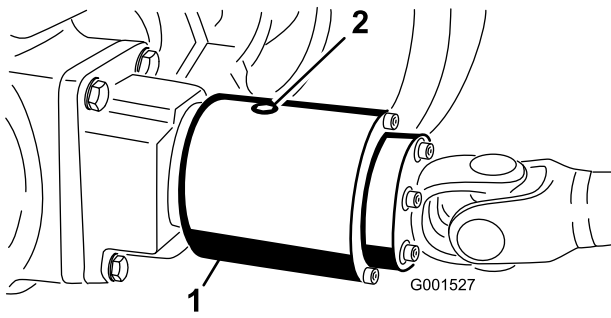

Figure 61
3. Rotate the clutch to align the check plug at the 6 o'clock position. (Figure 61).